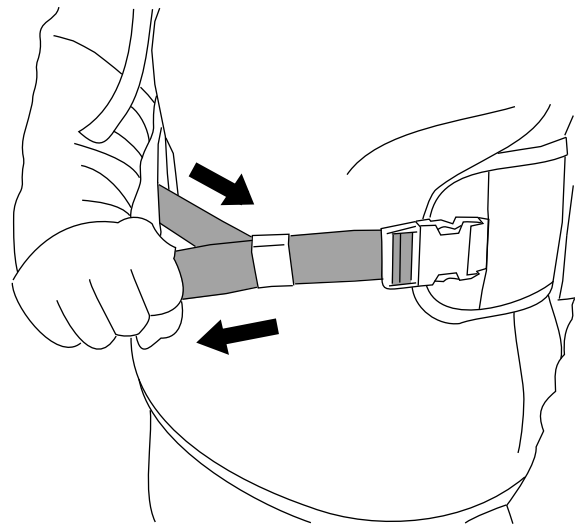

Figure 5
2. Tighten the hip belt so that it is snug (Figure 5).